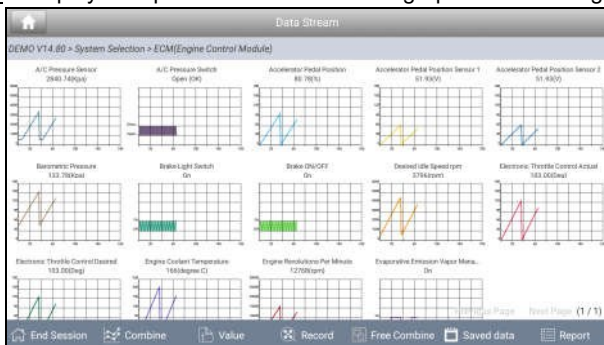

Fig. 5-15
- ✓ **Graph** – displays the parameters in waveform graphs. Refer to Fig. 5-15.